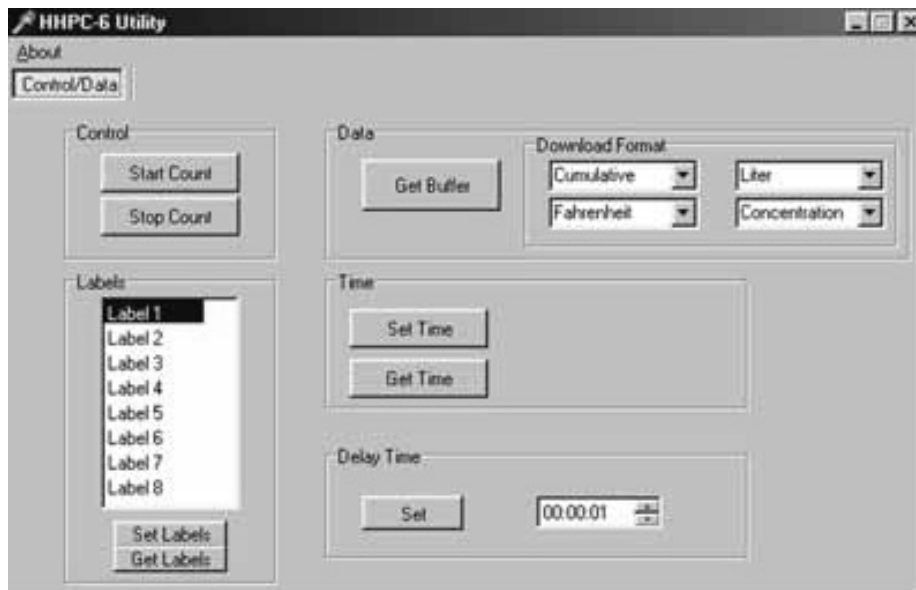

Figure 6 MET ONE HHP C-6 Utility window
5. To open the Utility software, double-click the HHP C6 Utility.exe file. The MET ONE HHP C-6 Utility window is displayed (refer to Figure 6).